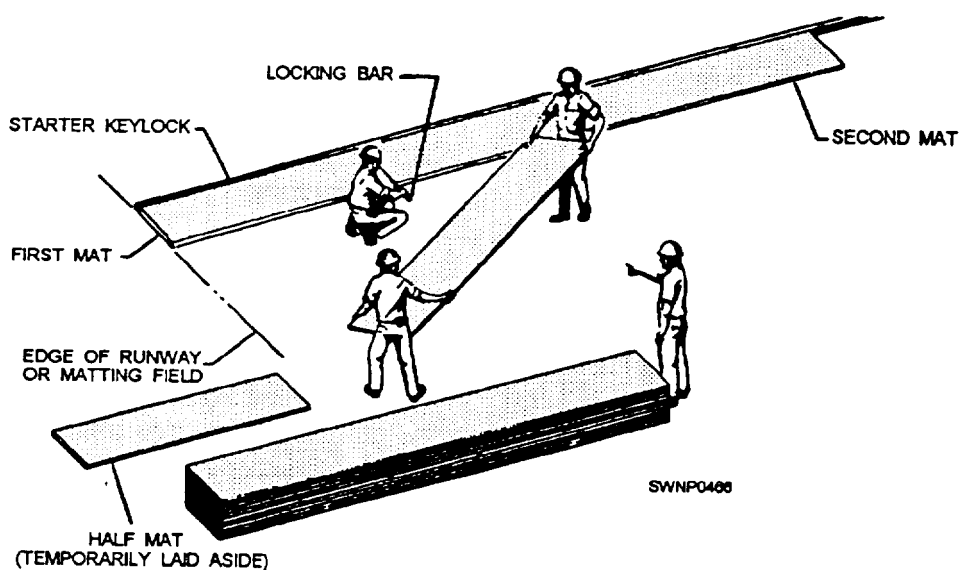
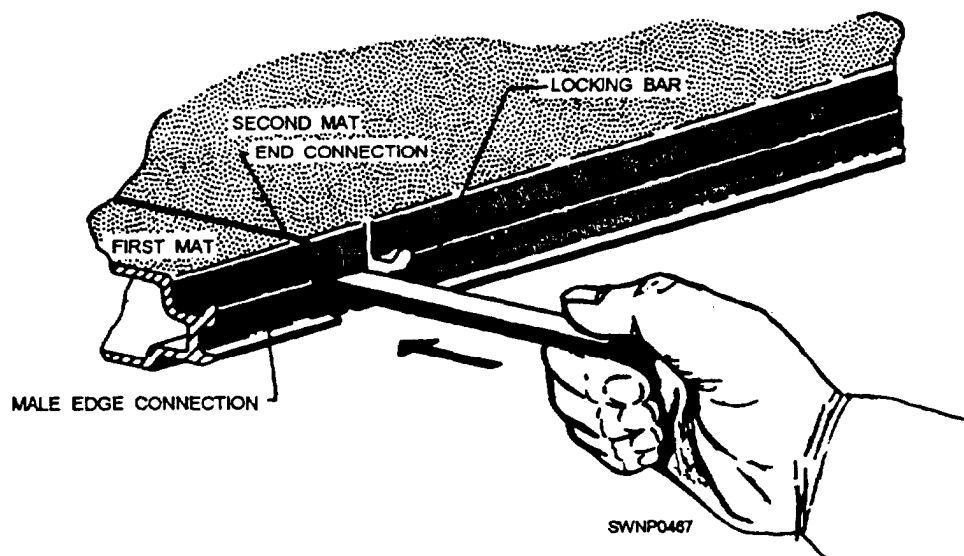

Figure 11-14.—Locking first and second mat, using locking bar.
Figure 11-15.—Insertion of the locking bar.
6. Lock the first and second mats together, as shown in figure 11-14, by inserting the locking bar (fig. 11-15).